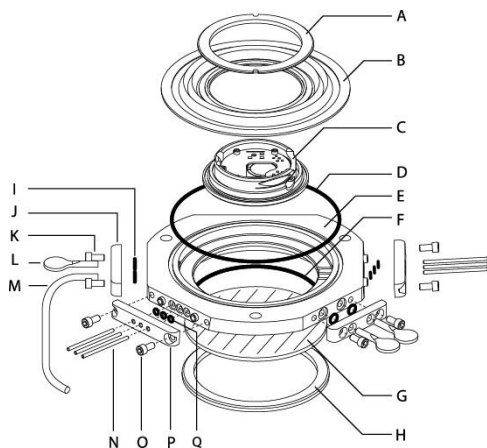

Figure 22.2.: Complete Parts breakdown of the Closed Fluid Cell.
4. If your fluid cell does not already have the tubes attached, please locate parts I, J, and K using Figure 22.2 on page 288.
1. Gather up items N, O, P and Q shown in Figure 22.2 on page 288.